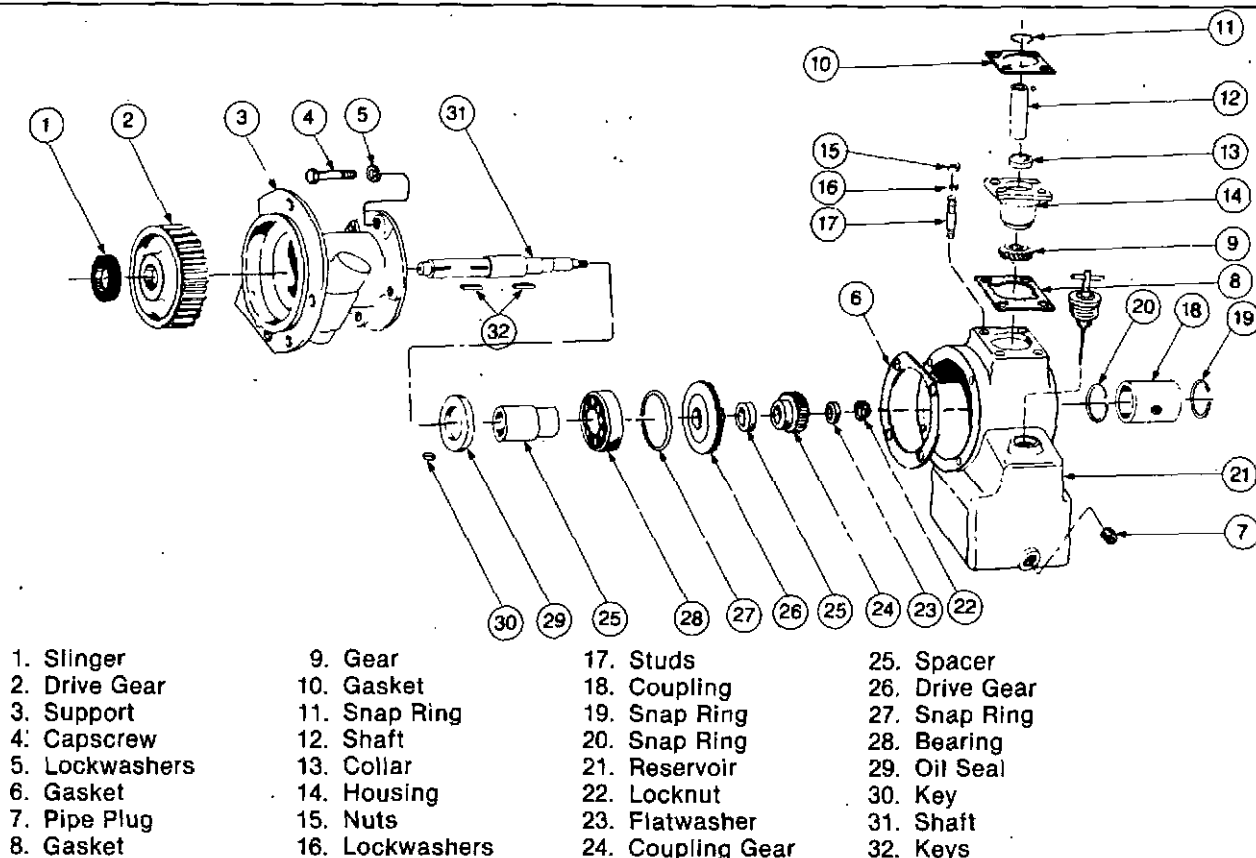

Fig. 9-3 (N10912). Fuel Pump, Hydraulic Governor Drive (Woodward Governor).
1. Remove the governor drive assembly, snap ring (11, Fig. 9-3), ball key and collar (13).
2. Press the shaft (12) opposite gear end to
1. Lubricate outside of oil seal (29, Fig. 9-3) and press into support from large end. Open end of seal must be down. Lubricate rear bearing (28) and press into support. Insert snap ring (27), flat side down.
2. Lubricate shaft (31) and place key (32) in shaft. Press shaft into flat side of gear (2) until shoulder seats on gear face.
3. Press small end of shaft assembly into large end of support. Press governor drive gear (26) onto shaft until it bottoms on bearing.
4. Insert key (30) and press on coupling (24). Shoulder of coupling goes against gear unless a spacer (25) is used. Install flatwasher (23) and shaft locknut (22).
5. Position reservoir (21) in vise with governor drive studs (17) up. Install dipstick, vent plug, weatherhead fitting and drain plug.
- a. Install shaft (12) in housing (14) with splined end up. Drop collar (13) into housing.
- b. Lubricate ball key and insert in drive shaft; install snap ring (11). Line up ball key with collar (13). Invert assembly and press on gear (9). Allow end clearance of 0.003 to 0.006 inch [0.08 to 0.15 mm].
- a. Press governor two-piece drive shaft (12) into washer flush with bottom side. Note relief in washer to start shaft.